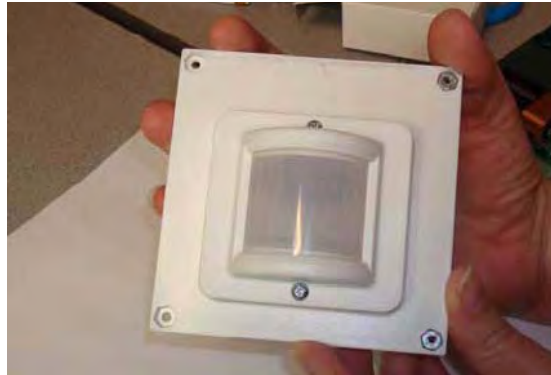

Figure 10. Assembled Flat 0.9" Lens Holder and Flat Lens
2. Place the cap over the base, ensuring that the top of the lens is toward the arrow on the base. Use the provided 1/2" machine screws (2) with a nut to secure the cap in place; see the example in Figure 10.
3. Place the lens and lens holder assembly onto the ZMOTION 20-Pin Development Board with the arrow on the lens holder aligned with the primary placement arrow on the circuit board, as shown in Figure 10. The four screw holes in the circuit board should line up with the four upper mounting holes in the lens holder.